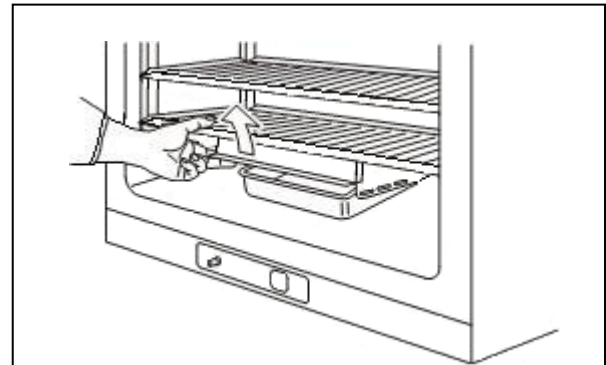

Fig. 1
1. Lift the front side of the humidifying pan cover. (Fig. 1)